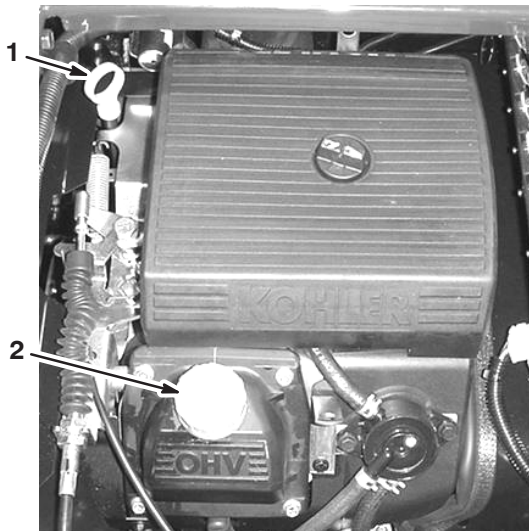

Figure 6
2. Remove the dipstick and wipe it with a clean rag (Fig. 6). Insert the dipstick into the tube and make sure it is seated fully. Remove the dipstick and check the oil level.
3. If the oil level is low, remove the filler cap from the valve cover (Fig. 6) and pour oil into the opening until the oil level is up to the Full mark on the dipstick; refer to Servicing Engine Oil, page 33, for the proper oil type and viscosity. Add the oil slowly and check the level often during this process. **Do not overfill.**